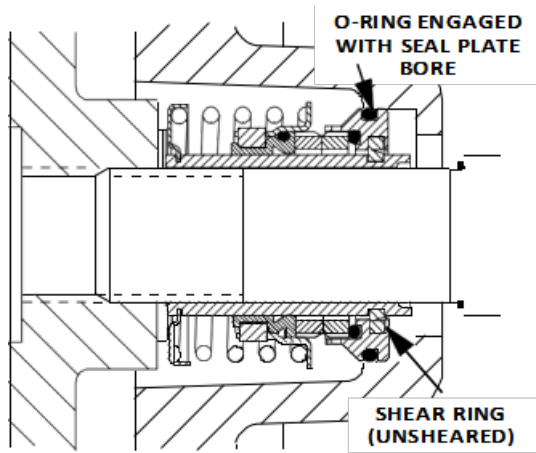

Figure 5. Seal Partially Installed
Clean and inspect the impeller as described in Impeller Installation and Adjustment. Install the full set of impeller shims (50) provided with the seal and screw the impeller onto the shaft until it is seated against the seal (see **Figure 5**).